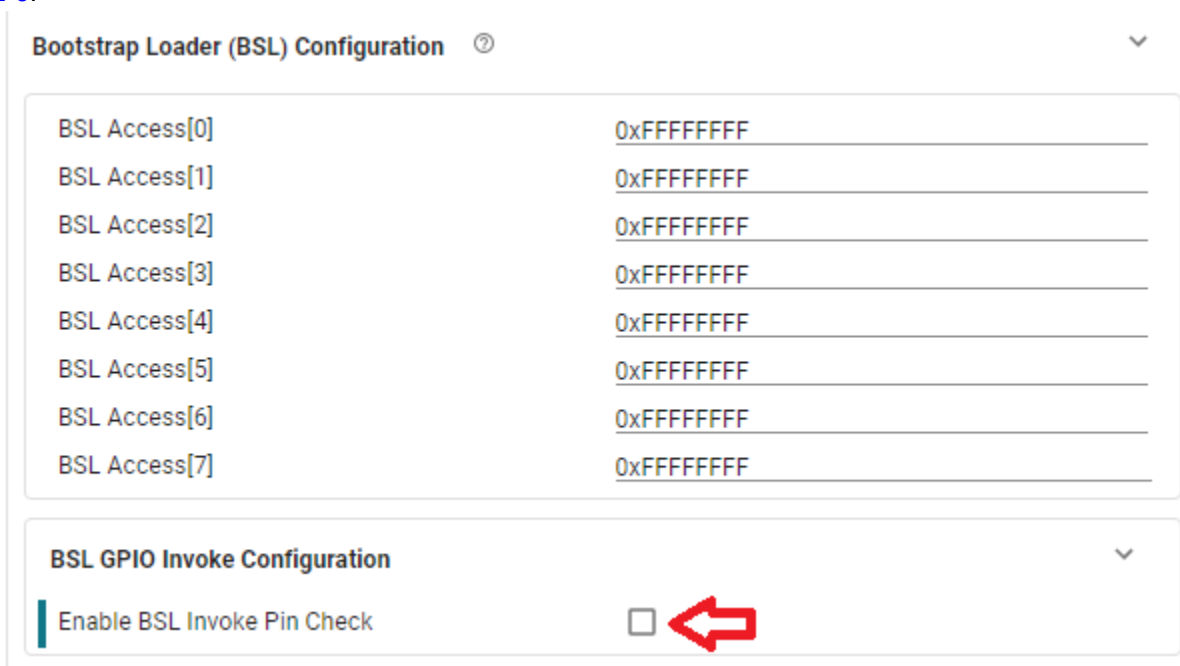

Figure 2-2. Disable PA18 BSL Invoke Function
2. Disable the PA18 BSL invoke function show in Figure 2-2 or choose another BSL invoke pin show in Figure 2-3.